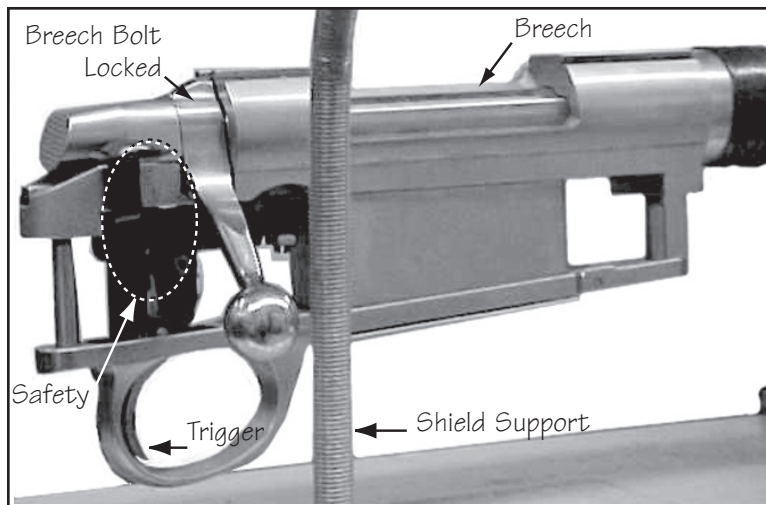

Figure 4.3-3.
4.3.12. Range Operator: **Slide** in the breech bolt, and **lock** it into place (Figure 4.3-3). **Set** the safety on the gun by pushing the safety lever away from the target chamber.